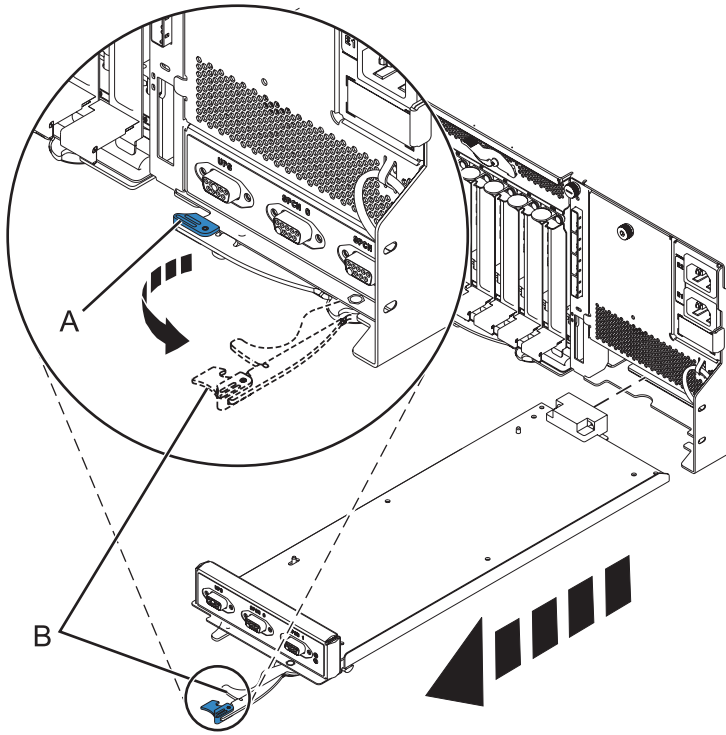

Figure 108. Remove the enclosure management controller
- b. Pinch the latch (A) to unlock the handle (B). See Figure 108 on page 112.